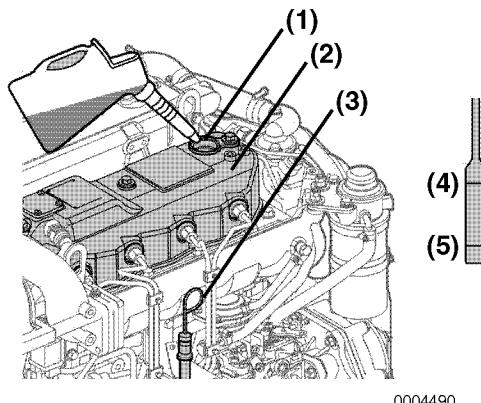

Figure 8
2. Remove dipstick (Figure 8, (3)) and wipe with clean cloth.
4. Remove dipstick. The oil level should be between upper (Figure 8, (4)) and lower (Figure 8, (5)) lines on the dipstick.
1. Remove the yellow oil filler port cap from filler port (Figure 8, (1)) and fill with engine oil.
2. Fill with oil to the upper limit (**Figure 8, (4)**) on the dipstick (**Figure 8, (3)**).